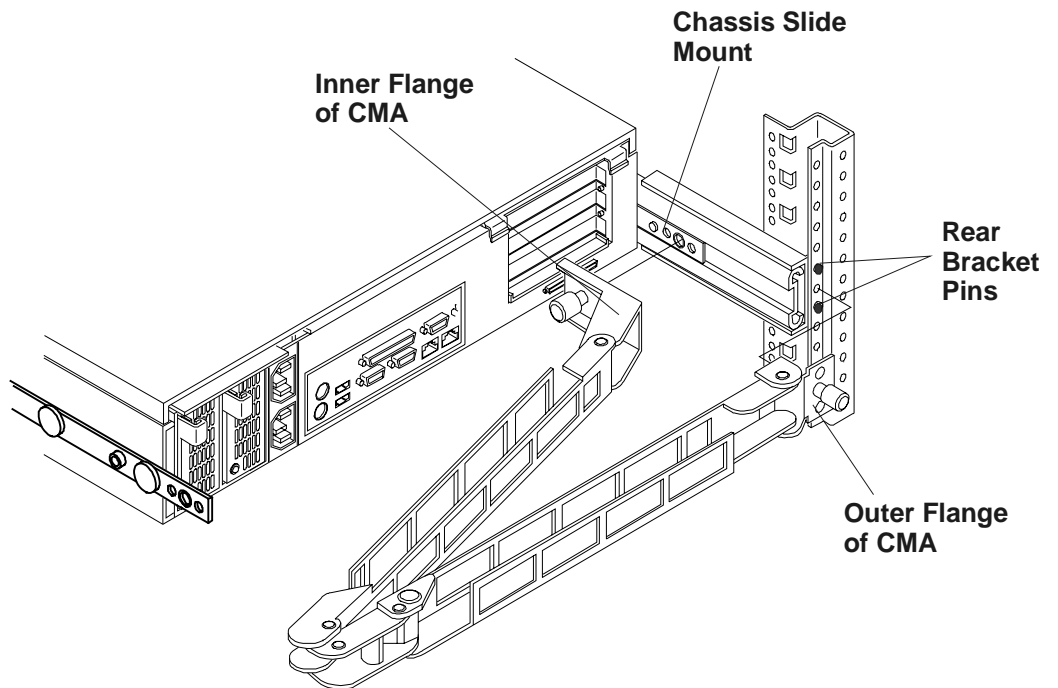

Figure 7-8. Attaching the Cable Management Arm (CMA)
- b. Tighten the thumbscrew on the flange to secure the Cable Management Arm to the rack. See the example in Figure 7-8.
- b. Tighten the thumbscrew to secure the Cable Management Arm. See Figure 7-8.